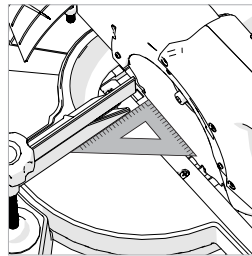

Fig. 19
- Ensure that the Cutting Head is in the locked down position with the latching pin fully engaged in its socket. **(see Fig.19)**
- Place a Set Square on the table with one short edge against the Fence and the other short edge against the Blade (avoiding the TCT tips). **(Fig. 19)**